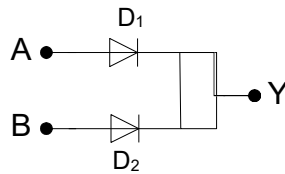

Figure 4.1: OR gate ( $Y=A+B$ )
- 4.4.1 Place the components of the circuit shown in figure 4.1 on the trainer board and link the connections correctly.